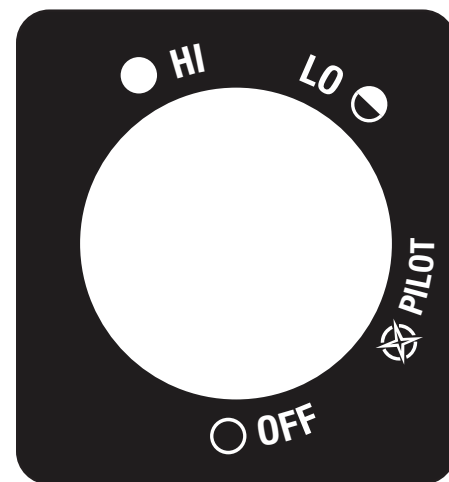

Figure 5
1. Make sure four-position Control Knob is in "OFF" position. See Figure 5.
2. Open valve at propane (LP) gas supply cylinder.
3. Turn Control Knob counterclockwise ☉ to "PILOT" position and depress to light. Refer to Figure 5.